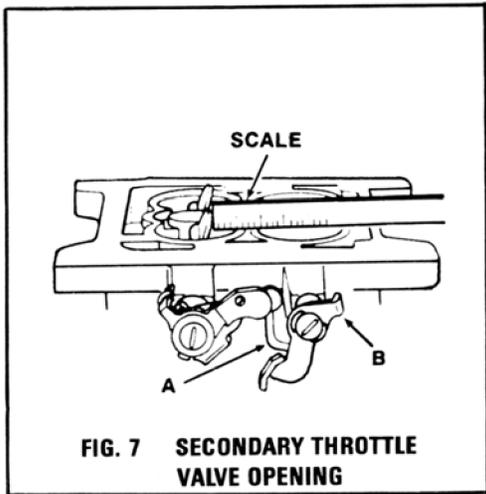

FIG. 7 SECONDARY THROTTLE VALVE OPENING
## SECONDARY THROTTLE VALVE OPENING (FIG. 7)
**IX. FAST IDLE VALVE CLEARANCE.** (See figure 7.)